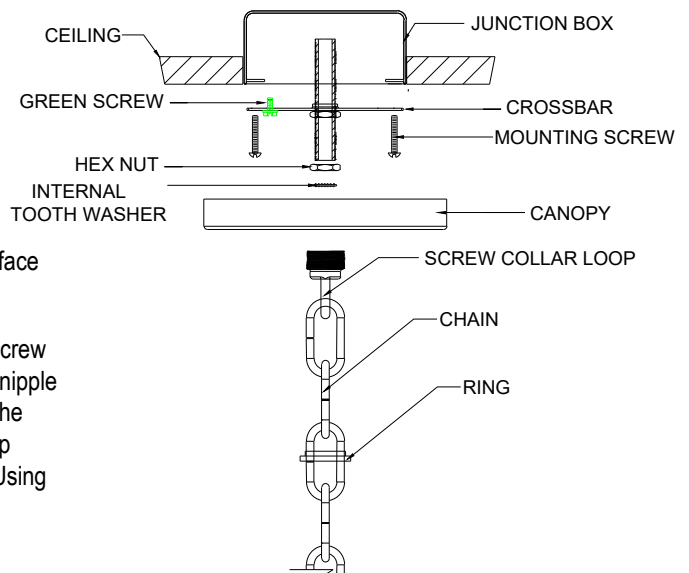

FIGURE-01
1. Attach the crossbar unto the junction box (the green screw should face the floor). (SEE FIGURE-01)